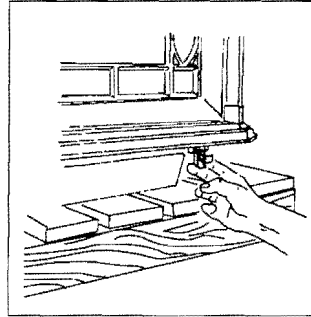

Figure 1.
**Step 2.** Disengage the two compression latches on the stove bottom by pulling each latch down and forward. Fig. 1.